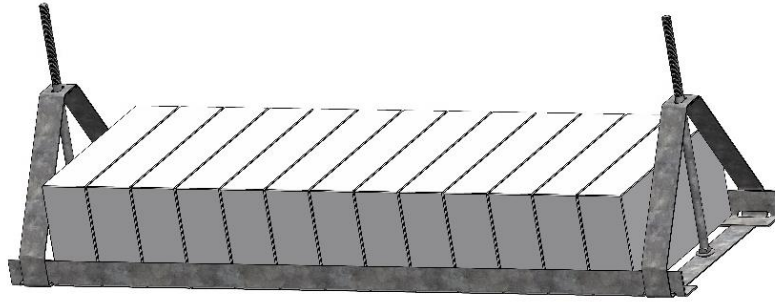

Figure 16 Ballast brick layout
7. Install the ballast bricks into the ballast frame. On the first row lay the bricks on their side as shown as per Figure 16.